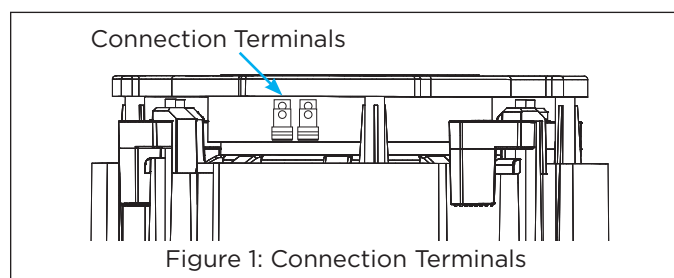

Figure 1: Connection Terminals
2. The speaker's connector posts are spring-loaded. Push the top of each connector post down to open the connector and insert the exposed wires into the holes in the posts (see Figure 1).